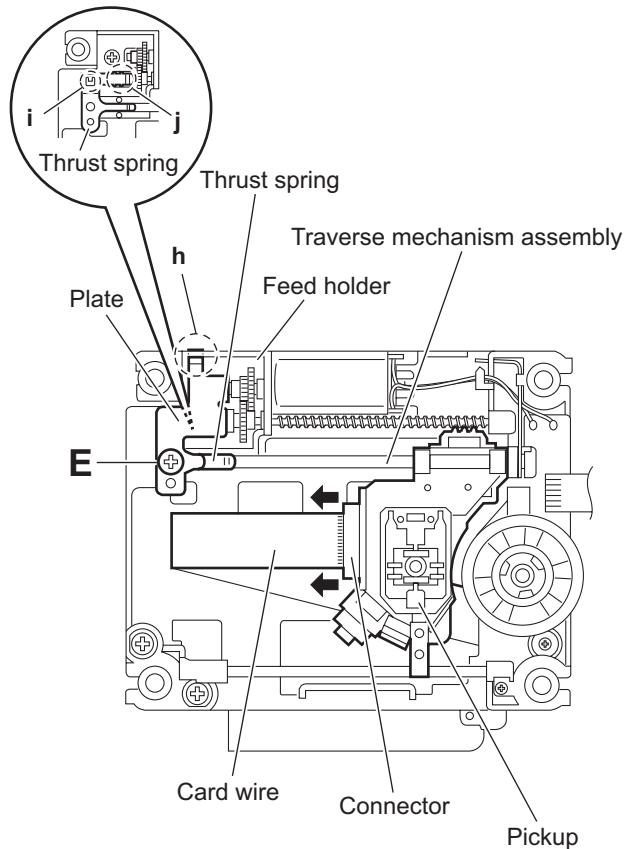

Fig.6
- (2) Release the lock of the connector on the pickup in the direction of the arrow and disconnect the card wire. (See Fig.6.)
- (3) Remove the screw **E** attaching the plate and thrust spring. (See Fig.6.)
- (4) Remove the engagement section **h** attaching the plate to the feed holder and remove the plate. (See Fig.6.)
- (5) Remove the engagement sections (**i**, **j**), remove the thrust spring. (See Fig.6.)
- (3) Attach the plate and thrust spring. (See Fig.6.)